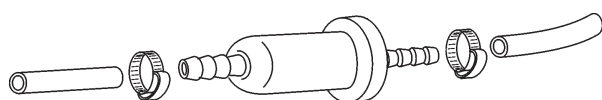

Figure 15. Fuel Filter (Typical)
- Replace the engine fuel filter (Figure 15) every 200 hours.